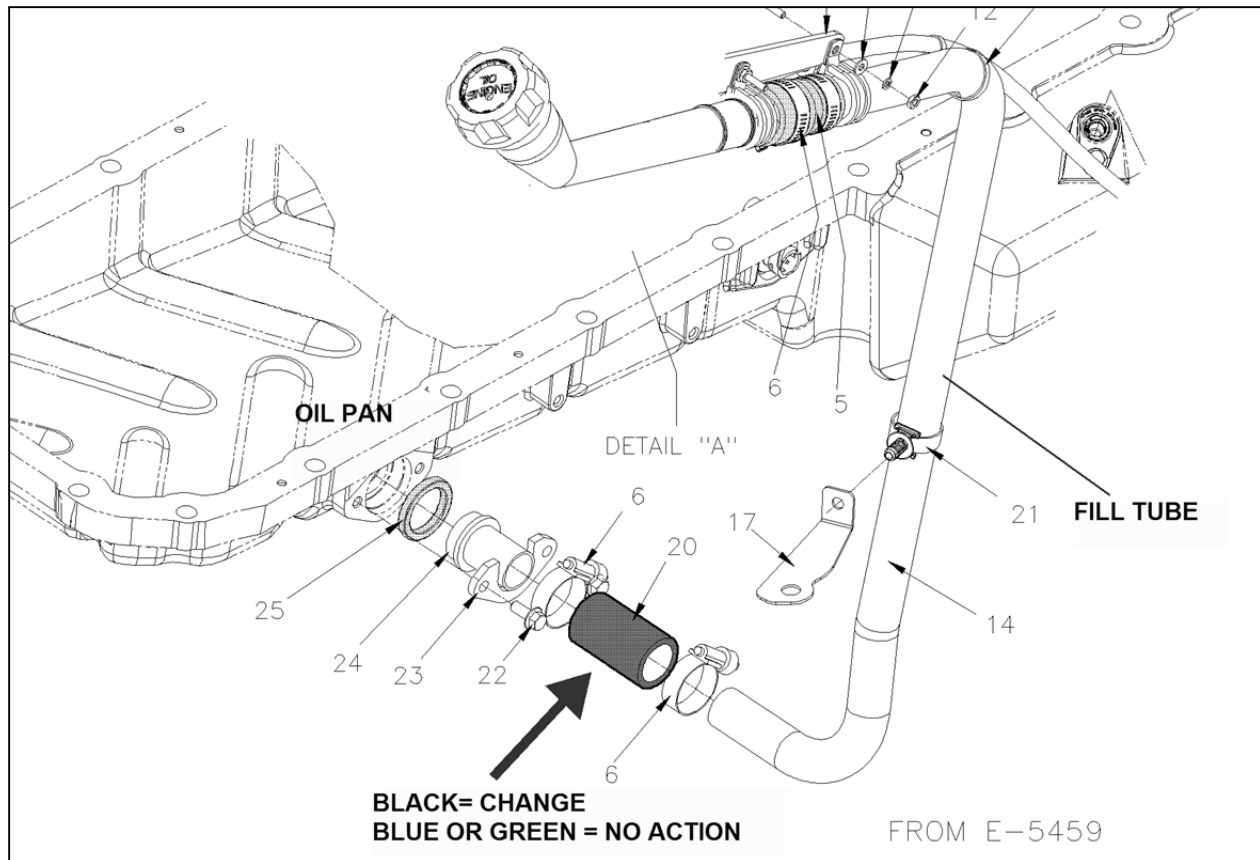

Figure 2
- Visually inspect the lowest section of the oil fill tube. (Fig. 2) The hose connecting the steel tube to the oil pan should be green or blue. (Fig 3 & 4)
- 4) Perform tube removal by undoing the two clamps. (Fig. 2) Dispose of tube according to regulations.